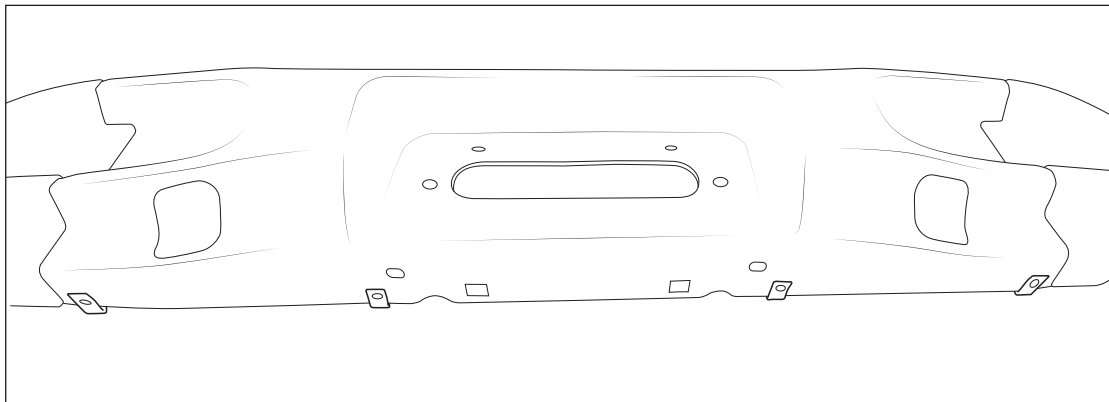

Figure 29
1. Install two provided M8 U-nuts to the bottom flange of the center stamping with the smooth surface on the bottom side (the outer u-nuts were already installed for tow loops). Insert until the threaded hole is centered within the hole in the stamping. (fig. 29)